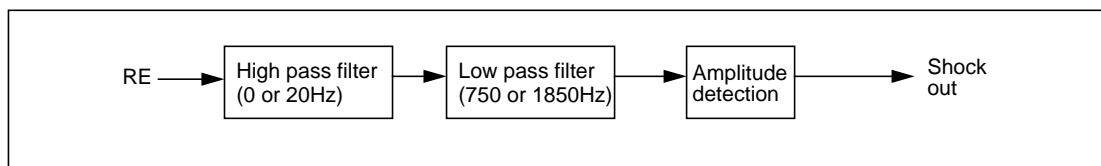

Figure 18 Block Diagram of Shock Detector
The shock detector (block diagram shown in Figure 18) can be switched on during normal track following; and detects within an adjustable frequency whether disturbances in the radial spot position relative to the track exceed an adjustable level (controlled by *shock_level*). Every time the radial tracking error (RE) exceeds this level the radial control bandwidth is switched to twice its original bandwidth and the loop gain is increased by a factor of 4.